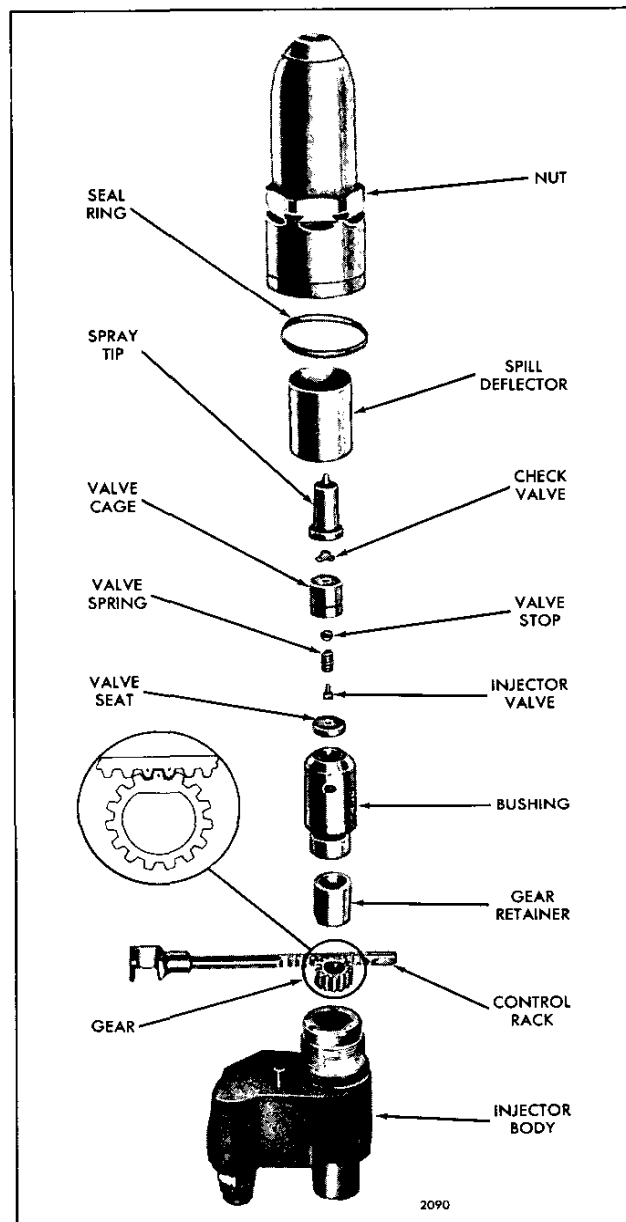

Fig. 15 – Injector Rack, Gear, Spray Tip and Valve Assembly Details and Relative Location of Parts
6. Refer to (Fig. 15) and remove the spill deflector. Then, lift the bushing straight out of the injector body.